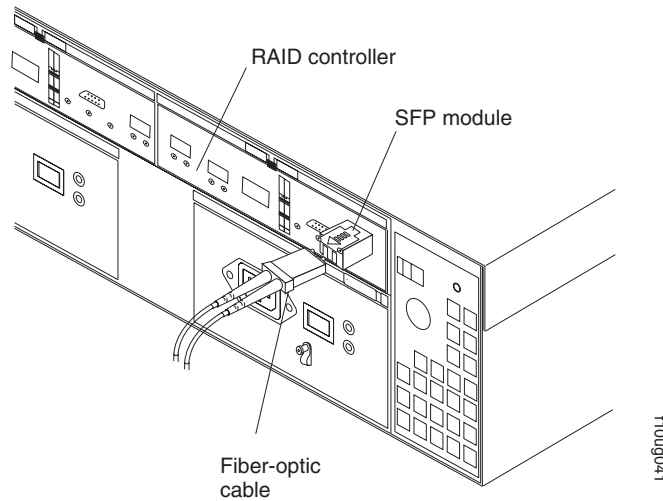

Figure 13. Installing an SFP module into the host port
4. Insert the SFP module into the host port until it clicks into place. See Figure 13.